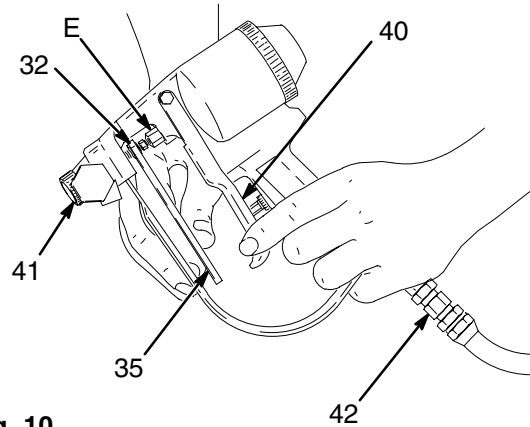

Fig. 10
To reduce the risk of serious injury from injection, be sure the trigger safety (40) is locked before proceeding. See Fig. 10.
12. Screw on the air cap (41). Connect the air hose of the heated hose assembly to the inlet bushing (42) of the gun. See Fig. 10.
13. Use the 7/16" end of wrench (35) to adjust the packing nut (32) until it is *just snug*. Don't over-tighten it! See Fig. 10.
14. Install the plastic shield around the exposed part of the needle assembly (E) to keep foam overspray from collecting on the needle. See Fig. 10.